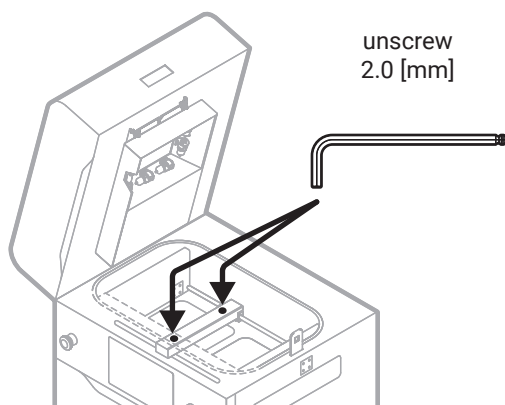

Fig. 1 Set the Recoater and remove the screws from the Recoater cover.
7. Using a 2 mm allen key, unscrew both screws on the Recoater cover (fig. 1).